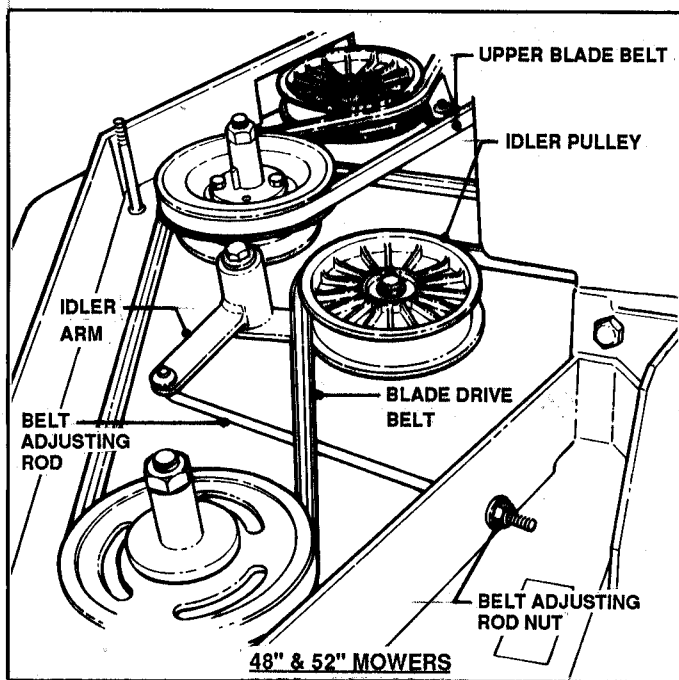

FIGURE 25
- 11. Loosen hardware on Belt Adjusting Rods to release tension from Idler Pulleys. See Figure 25.
- 12. Remove Upper Blade Belt. Refer to Figure 25.
- 13. Remove BLADE DRIVE BELT from pulleys and electric clutch. Refer to Figure 25.